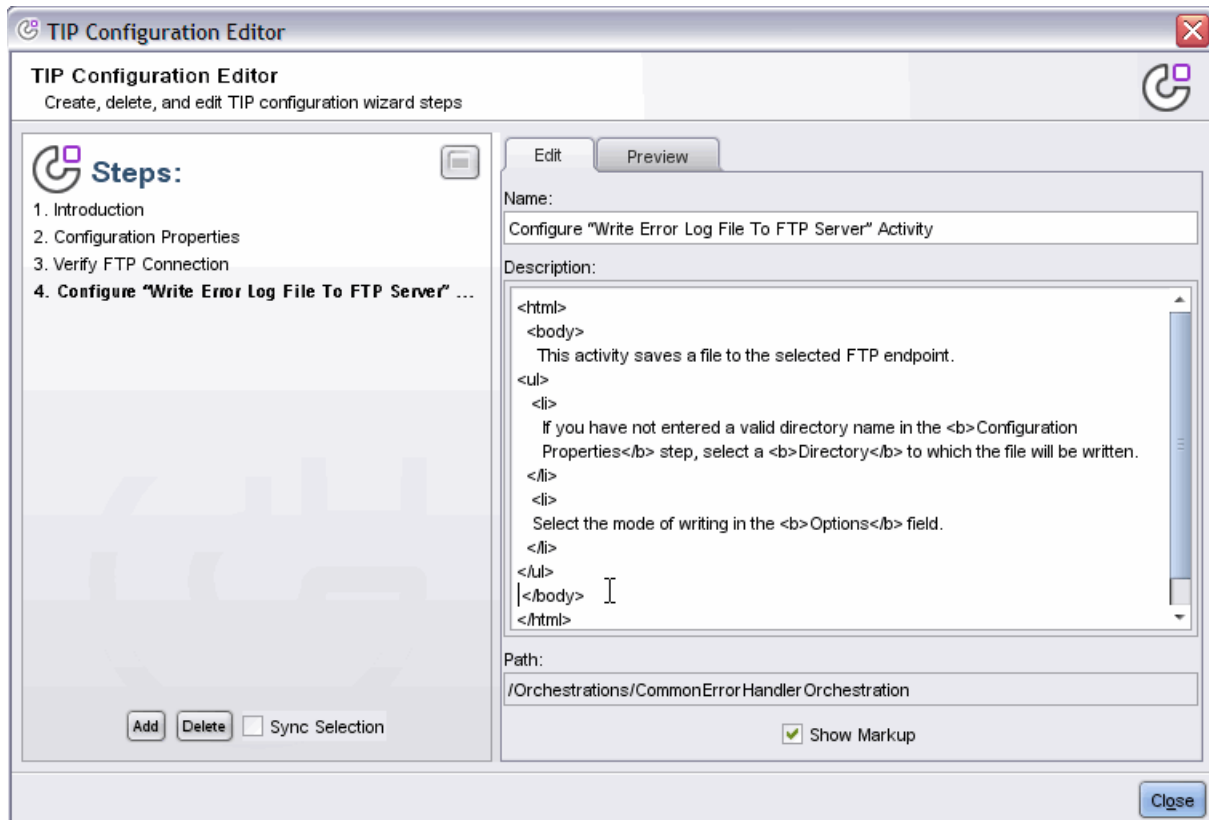

Figure 7-13 Configure "Write Error Log File To FTP Server" Activity step
- d. Enter the instructions in the Description field, as shown in Figure 7-13 on page 303.